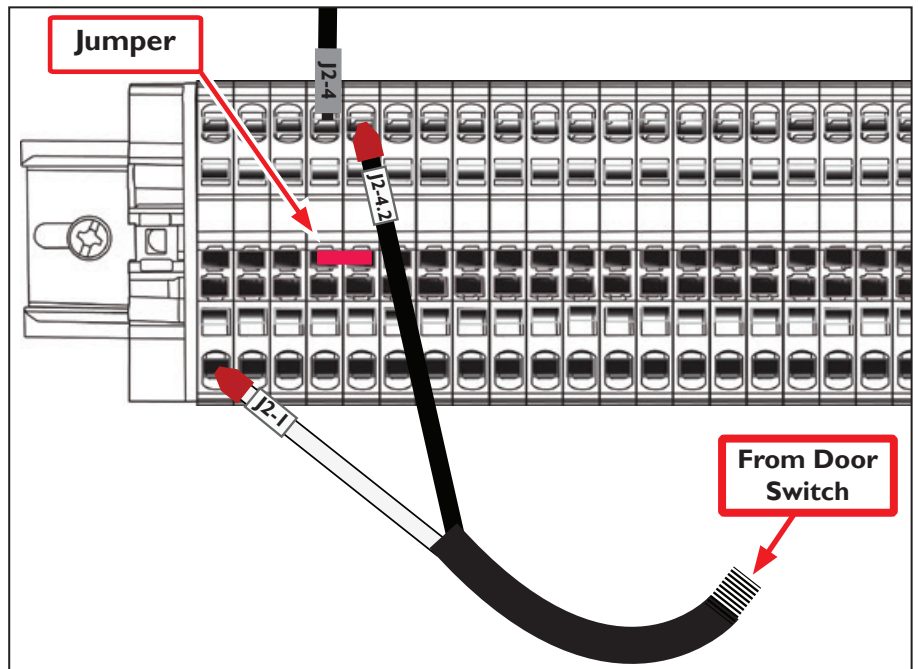

Figure 6
17. From the door switch, connect the black and white wires to the terminal block as shown in **Figure 6**.
When properly connected, wire **J2-4** and wire **J2-4.2** are linked by an existing red jumper, as shown in **Figure 6**.